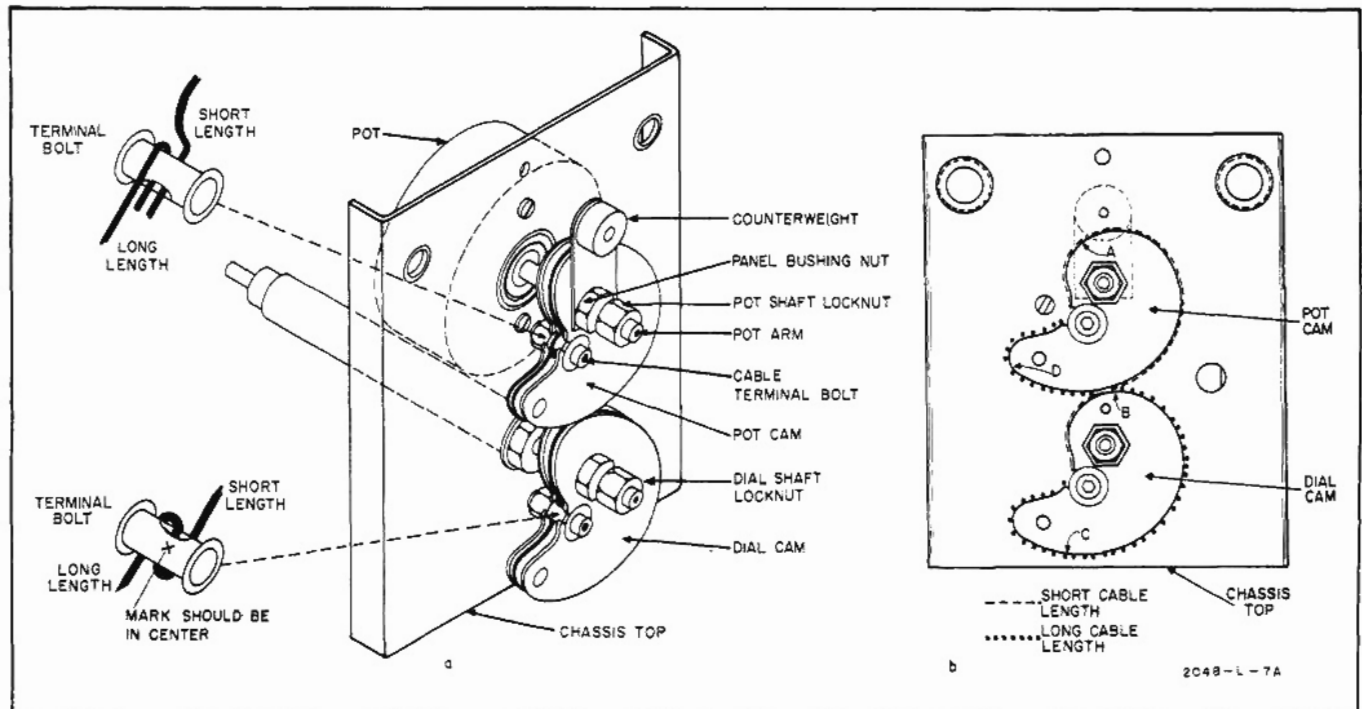

Figure 5-5. Cams and Cable Relationship
holding the power supply and circuit board, then swing the two assemblies to the side. Use figure 5-5 as a guide, and proceed as follows:
5-35. To replace the frequency potentiometer (pot), R10A and B, it is necessary to remove the pot cam. For easier access to the cams, remove the screws holding the power supply and circuit board, then swing the two assemblies to the side. Use figure 5-5 as a guide, and proceed as follows:
- a. Position cams as shown in figure 5-5a. Some instruments have aluminum cams which have the counterweight shown in figure 5-5. Other instruments
i. Install counterweight and tighten panel bushing nut. Counterweight is keyed and should be positioned as shown in figure 5-5. (omit if no counterweight).